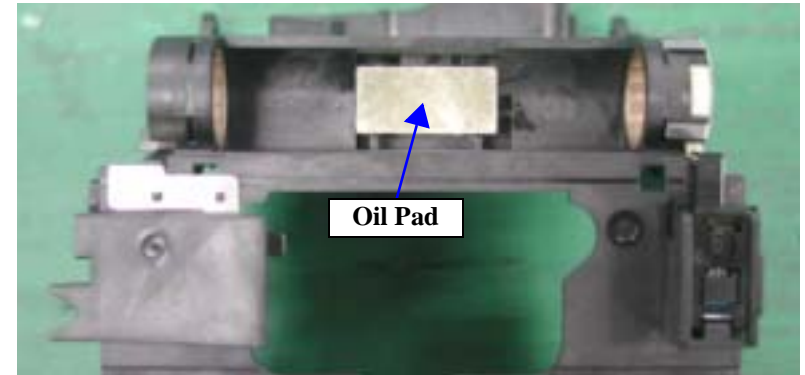

Figure 4-80. Oil Pad
■ When removing the Carriage Guide Shaft A from the Carriage Unit, fully use care not to lose the Oil Pad at the lower rear of the Carriage Unit. Refer to Figure 4-80, "Oil Pad".